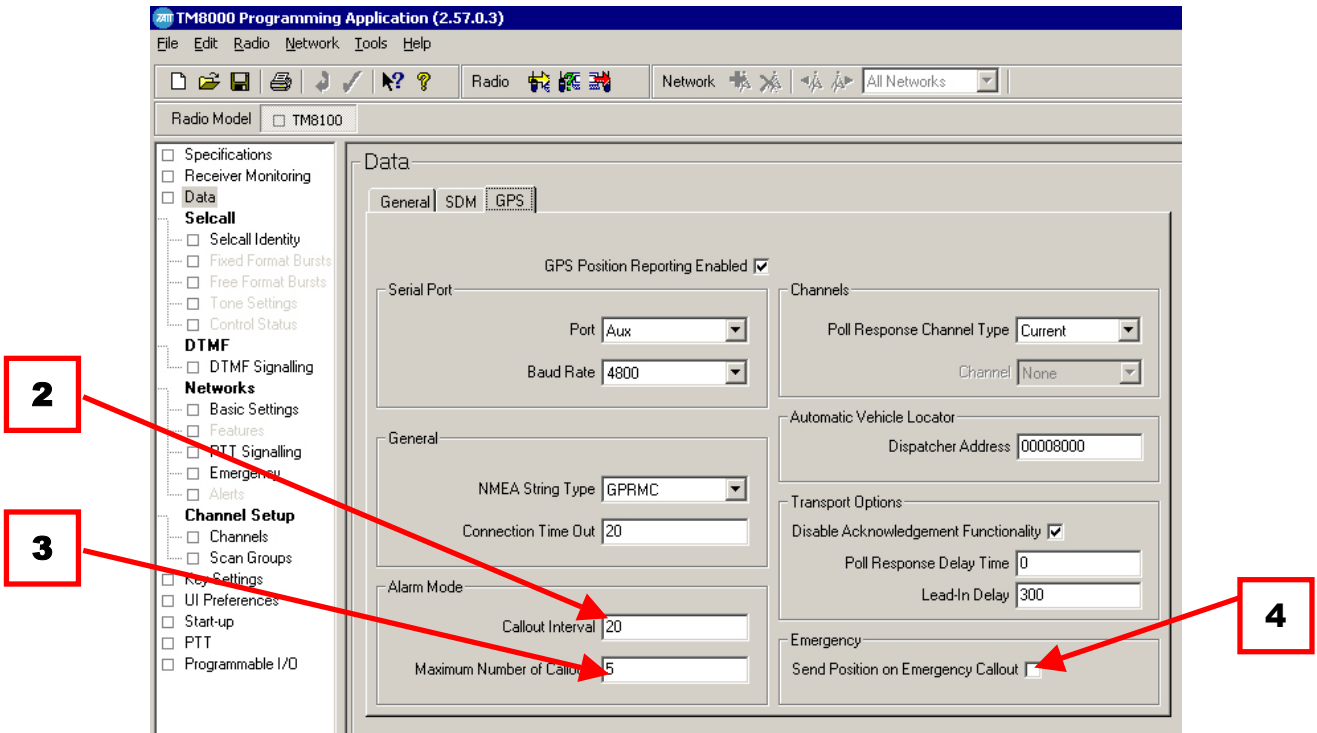

Fig 3: Alarm Mode
- Once activated the radio will begin sending the current GPS location at the **CALLOUT INTERVAL**. (See Fig 3)
(The channel that is used is designated as either the current one, or another specific channel that is outlined in the emergency page of the TM8100 programming application. (See Fig 3)
- If the **SEND POSITION ON EMERGENCY CALLOUT** box is ticked: GPS location information will be sent immediately following the emergency callout sequence. Part of the location data sent will indicate that the radio is in emergency (See Fig 3)